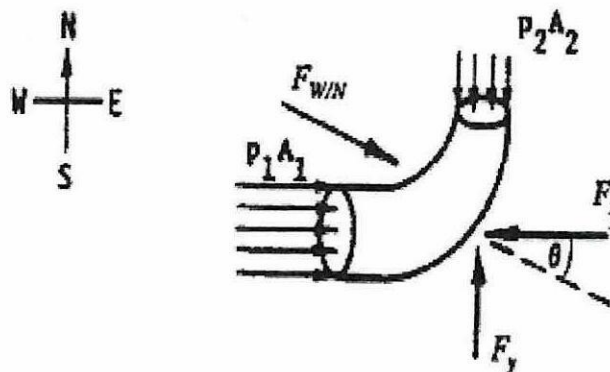

Figure Q2.1
- (c) A reducing right-angled bend lies in a horizontal plane as shown in **Figure Q2.1**. Water enters from the west with a velocity of 3 m/s and a pressure of 30 kPa, and it leaves toward the north. The diameter at the entrance is 500 mm and at the exit it is 400 mm. Neglecting any friction loss, resolve the magnitude and direction of the resultant force on the bend. (12 marks)